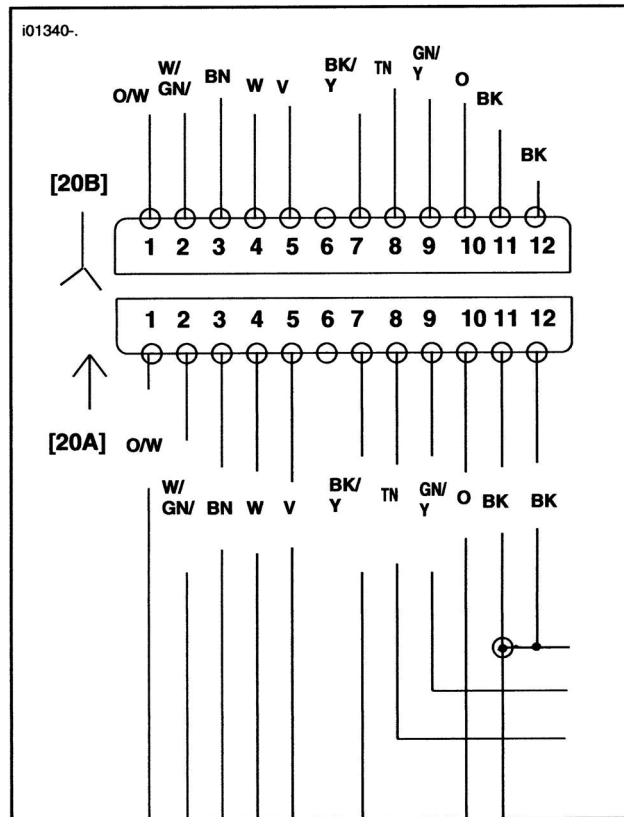

Figure 5. Wiring Connector [20].
The 1998 FLHR/I and FXDWG models have a 14 place connector [20]. Cavities (13 & 14) are not used on FXDWG models. On FLHR/I models switch the check engine light lead, BK/Y, from cavity (14) in old connector [20] to cavity (7) in new connector [20] as shown in Figure 5.
3. See Figure 5. Insert terminals into connector half [20A] as shown.
To avoid miswiring the indicator lamp wires in the socket half of the connector in the following step, cut each wire separately, strip wire, install new socket terminal and insert terminal in same position that it was in old socket half. On FLHR/I models switch the check engine light lead, BK/Y, from cavity (14) in old connector [20] to cavity (7) in new connector [20] as shown in Figure 5.
4. See Figure 5. Insert socket terminals into connector half [20B] as shown.
2. See Figure 5. Check that new connector [20] is wired as shown in Figure 5. Insert seal pins in any cavities not being used.
6. See Figure 5. Check that new connector [20] is wired as shown in Figure 5. Insert seal pins in any cavities not being used.